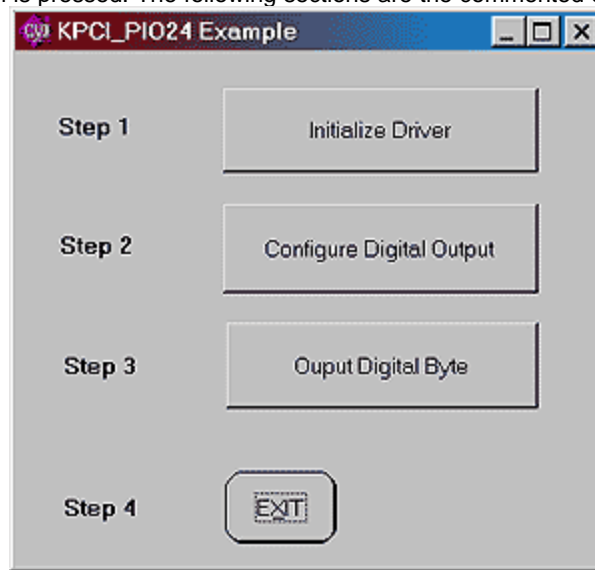

Figure 3: Sample.uir User Interface
- The user interface in *Figure 3* shows that this example program is divided into four steps. Each step is executed when its associated command button is pressed. The following sections are the commented code for each of these steps.